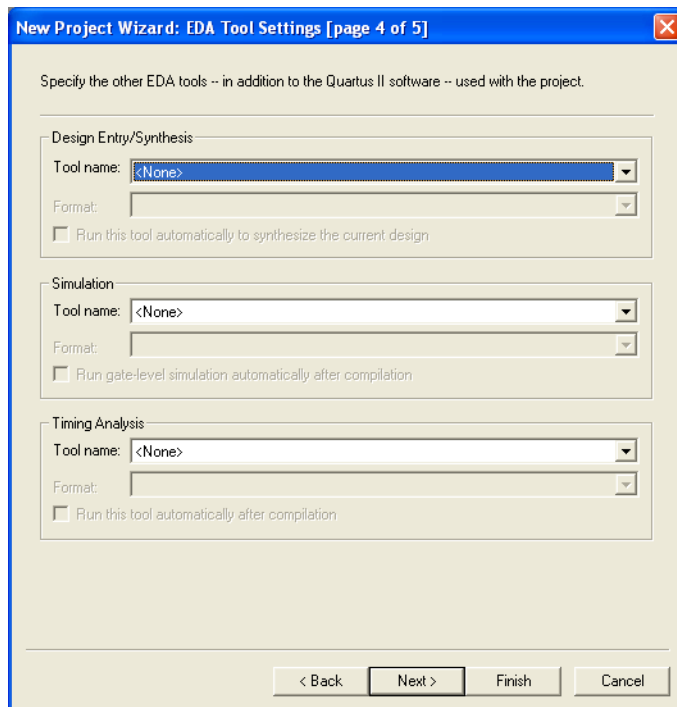

Figure 8. Other EDA tools can be specified.
- We have to specify the type of device in which the designed circuit will be implemented. Choose Cyclone™ II as the target device family. We can let Quartus II software select a specific device in the family, or we can choose the device explicitly. We will take the latter approach. From the list of available devices, choose the device called EP2C20F484C7 which is the FPGA used on Altera's DE1 board. Press Next, which opens the window in Figure 8.